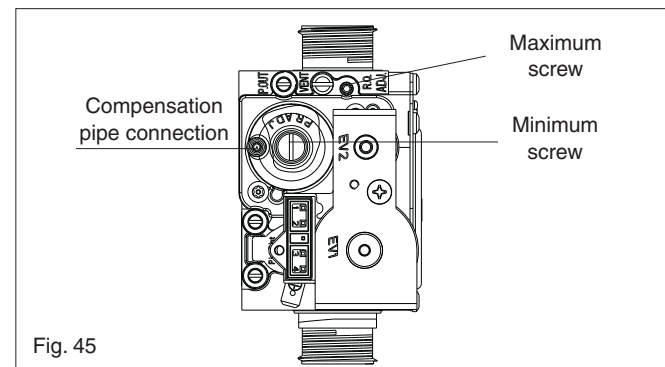

Fig. 45
- Using a suitable screwdriver, very slowly turn the maximum adjustment screw (see fig. 45) – clockwise to decrease, counter clockwise to increase – until the correct value is displayed on the CO2 analyser (allow time for the analyser to stabilise).
- Using a 2,5mm Allen key, very slowly turn the minimum adjustment screw (see fig. 45) – clockwise to increase, counter clockwise to decrease - until the correct value is displayed on the CO2 analyser (allow time for the analyser to stabilise).